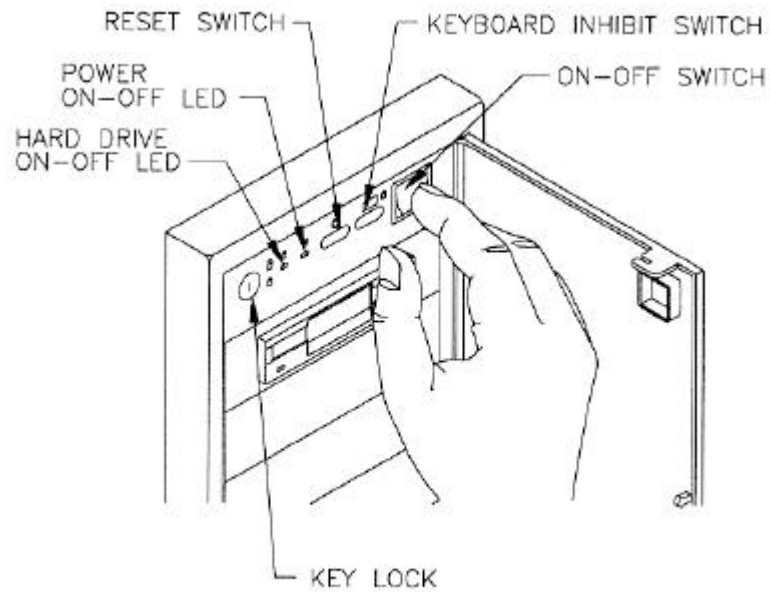

Figure 2-3: Power On/Off Switch
1. Turn the power ON by pressing the power on/off switch, as illustrated in Figure 2-3. The green LED (power status indicator) will light when power is on. Then turn the monitor power ON.